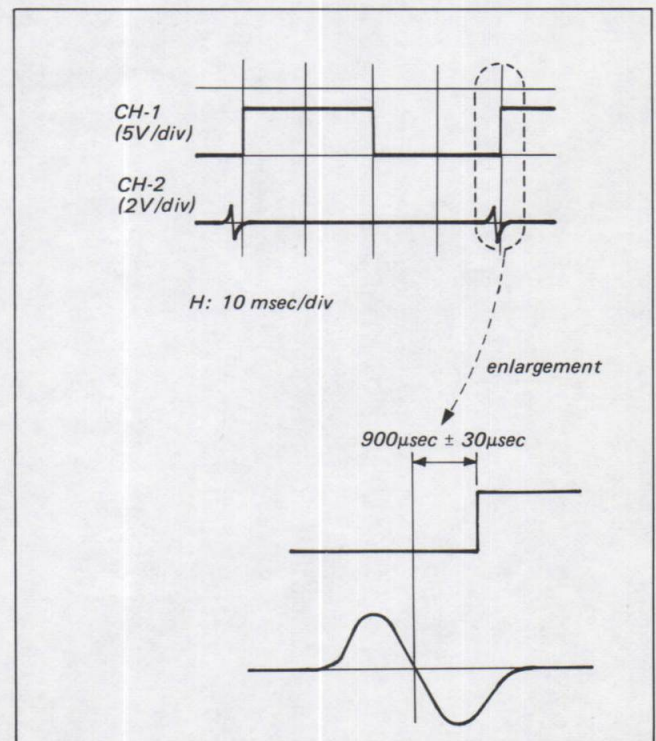
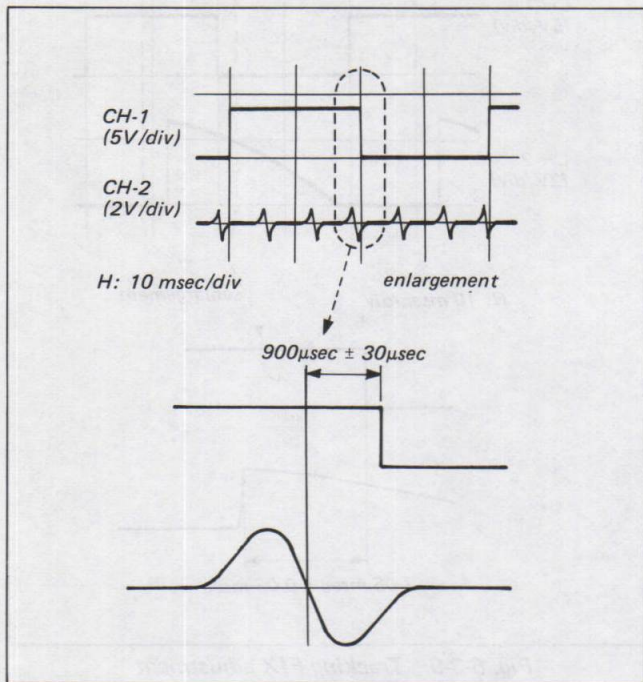

Fig. 5-3-3. RF switching position adjustment (1)
Fig. 5-3-4. RF switching position adjustment (2)
- i) Adjust to $900\mu\text{sec} \pm 30\mu\text{sec}$ with RV401. (See Fig. 5-3-3)
- ii) Change connection of CH-2 only to pin ③② of IC401.
- iii) Adjust to $900\mu\text{sec} \pm 30\mu\text{sec}$ with RV403. (See Fig. 5-3-4)